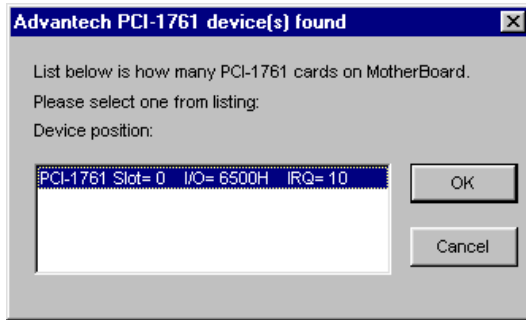
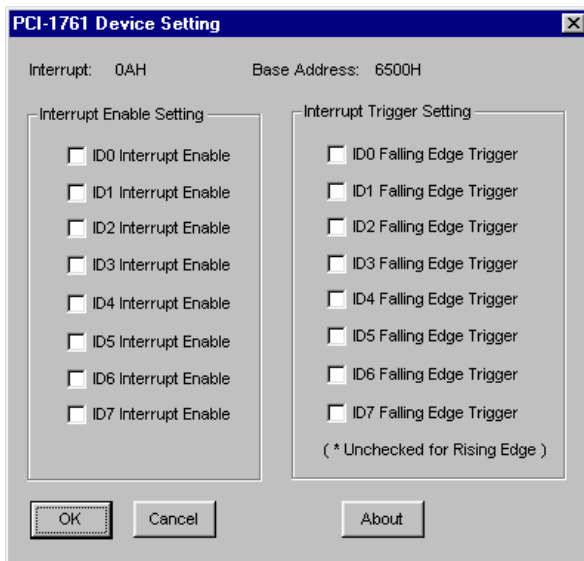

Fig. 2-8 The "Device(s) Found" dialog box
Fig. 2-9 The Device Setting dialog box
Step 3: Scroll down the *List of Devices* box to find the device that you wish to install, then click the *Add...* button to evoke the *Device(s) found* dialog box such as one shown in Fig. 2-8. The *Device(s) found* dialog box lists all the installed devices on your system. Select the device you want to configure from the list box and press the **OK** button. After you have clicked **OK**, you will see a *Device Setting* dialog box such as the one in Fig. 2-9.
Step 4: On the *Device Setting* dialog box (Fig. 2-9), you can configure the ID0 ~ ID7 Interrupt trigger mode either as *Rising Edge* or *Falling Edge*, and *Enable* or *Disable* the ID0 ~ ID7.